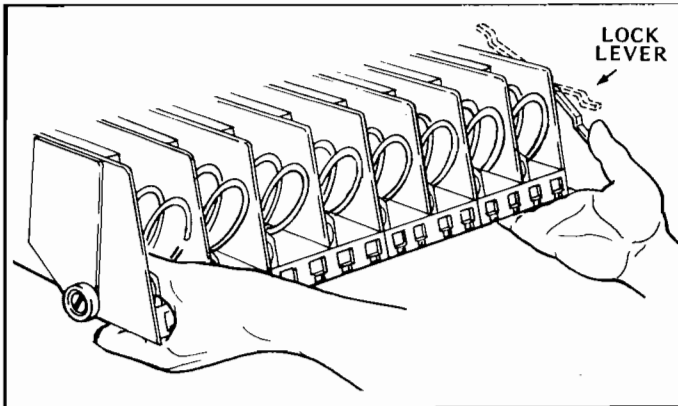

Figure 1. MOVING SHELF TO LOADING POSITION.
3. **LOADING SNACK SHELVES:** Open door to full open position, push down on white plastic lock lever (Figure 1) on right side panel by shelf to unlock shelf, holding lever down. Grasp the shelf, under both front corners (see Fig-